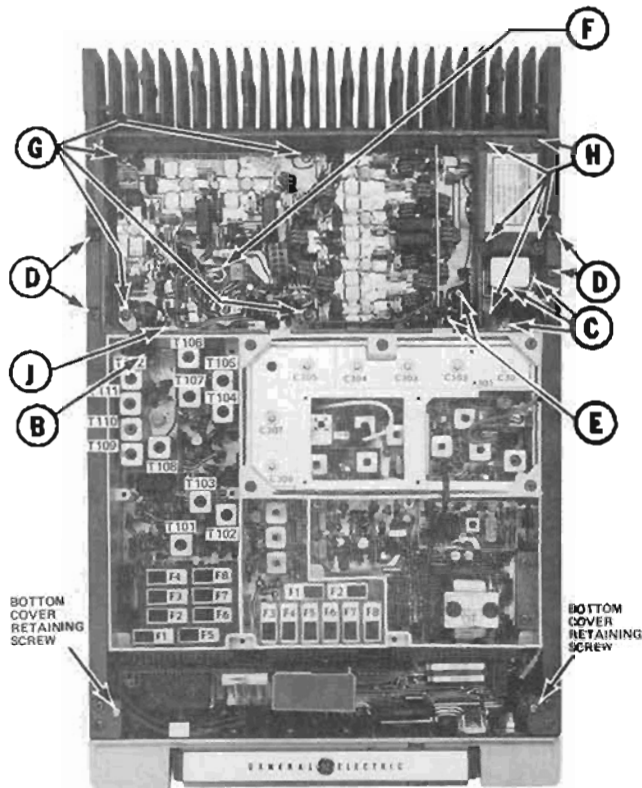

Figure 5 - Disassembly Procedure Top View
2. Remove the top cover, then loosen the two bottom cover retaining screws and remove the bottom cover (see Figure 5).